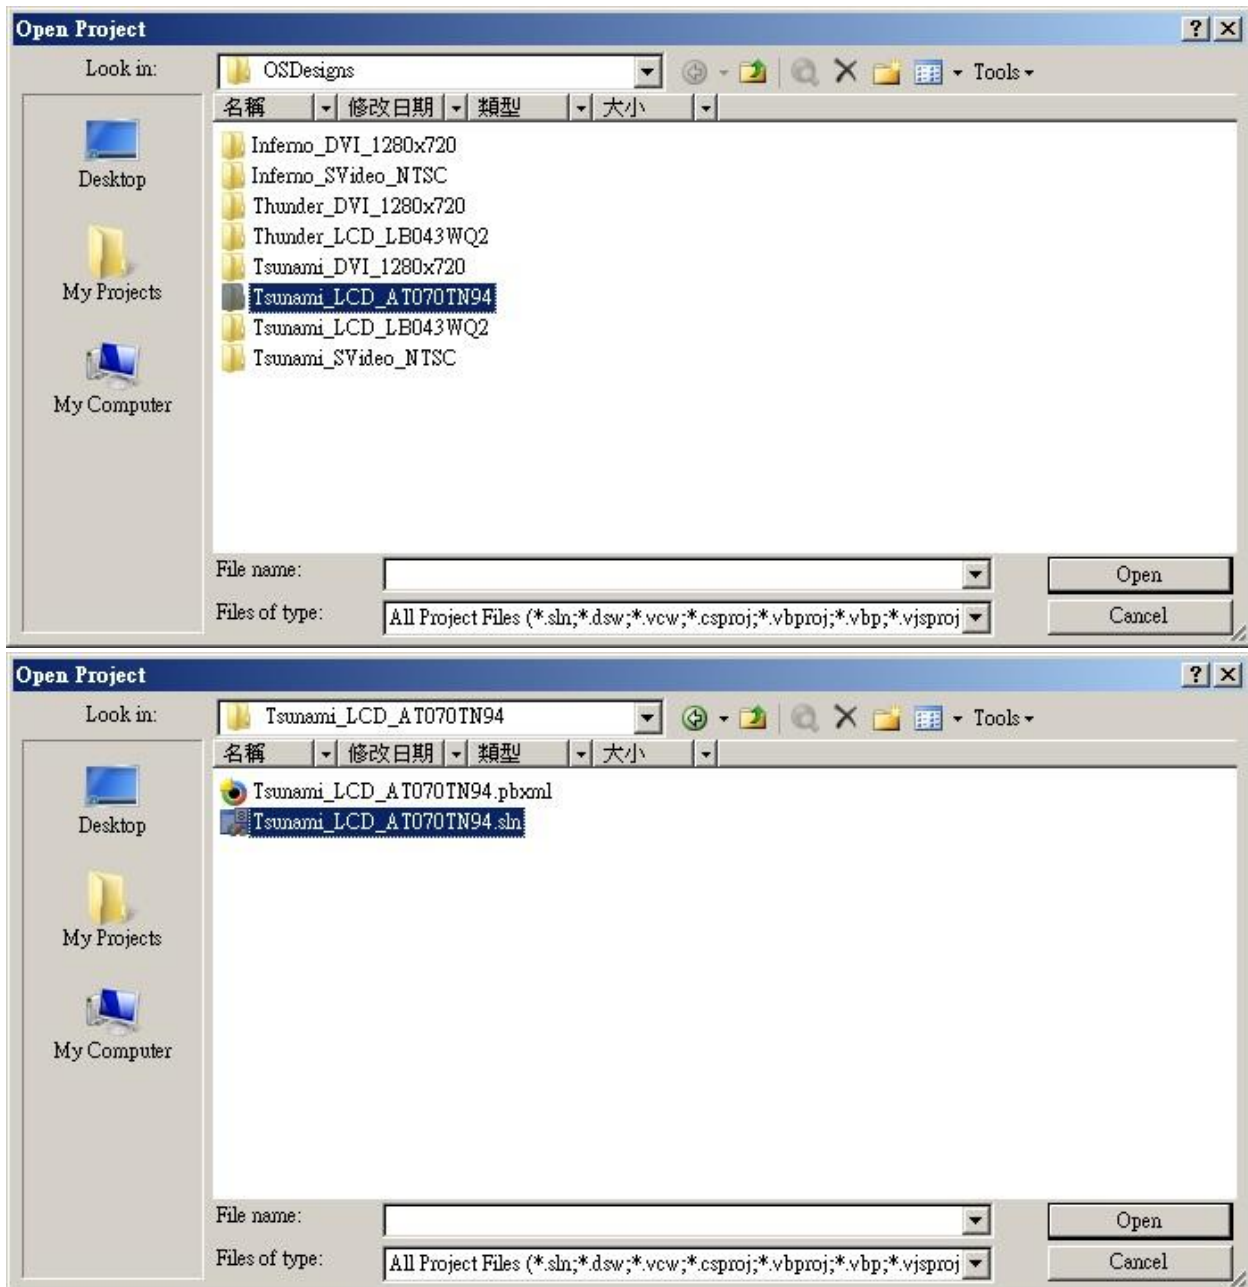

Figure 120
- Go into the folder and open the SLN-file (As example in this manual we use “Tsunami_LCD_AT070TN94”) (See Figure 120)